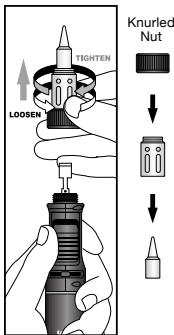

Fig.6
2. Unscrew Tip Assembly with a counterclockwise motion. (Fig. 6) Pliers may be required to lightly grasp the **Knurled Nut** in order to loosen the tip.